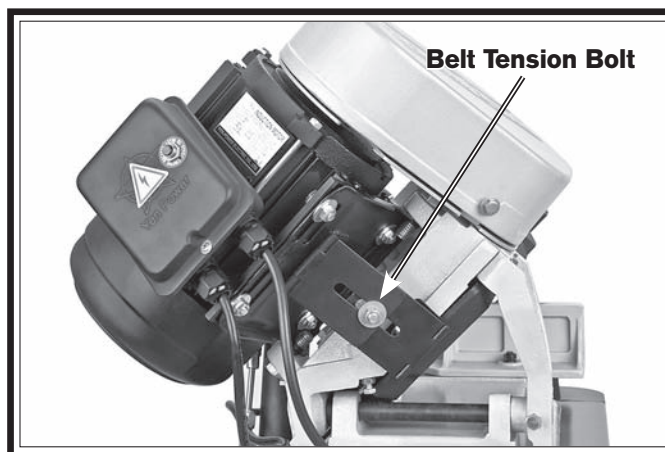

Figure 31. Motor tension bolt.
2. Open the belt cover, then loosen the belt tension bolt shown in **Figure 31** to allow the motor to pivot.